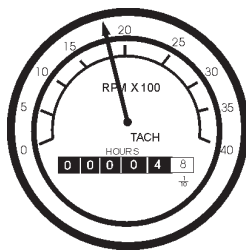

Figure 51. Engine Tachometer Gauge
14. The **tachometer gauge** (Figure 51) will indicate the speed of the engine when the generator is operating. Under normal operating conditions this speed is approximately 1800 RPM's.